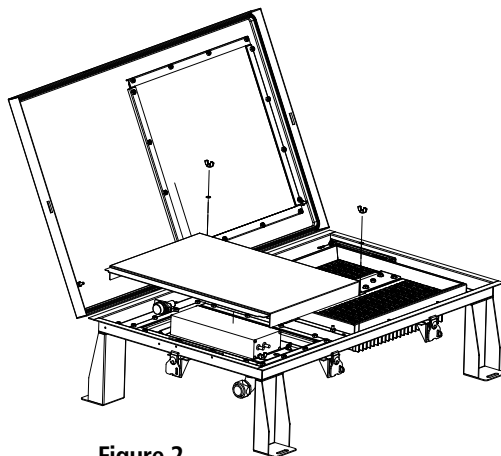

Figure 2
3. Loosen wing nuts and remove Wiring Cover. See figure 2.
2. Loosen wing nuts and remove Wiring Cover. See figure 2.